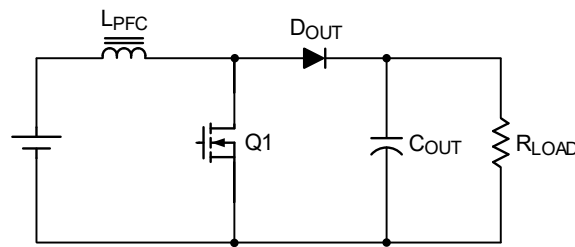

Figure 2. Typical Boost Converter
Figure 2 shows a typical boost converter. When the MOSFET turns on with a fixed on-time (t_{ON}), the inductor current can be calculated using equation (1).